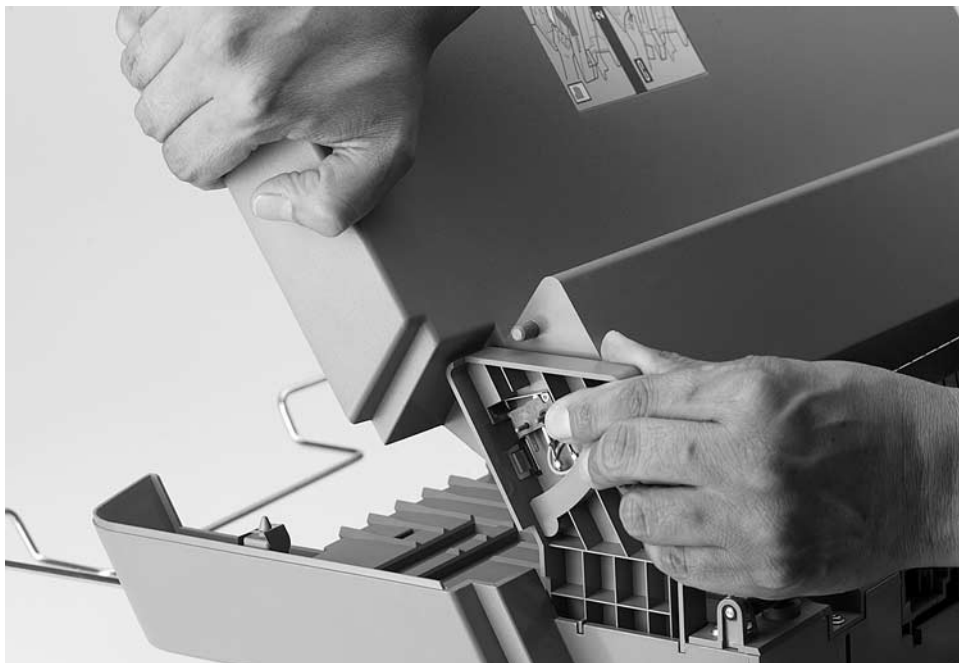

Figure 6-187 Top Cover Assembly
- 4 On each side of the assembly, pull the hinge to release the 2 posts from the retaining notches (see figure 6-187).
- 4 Remove the Top Cover Assembly (see figure 6-187 on page 484).
- 2 Remove the Top Cover Assembly (see figure 6-187 on page 484).